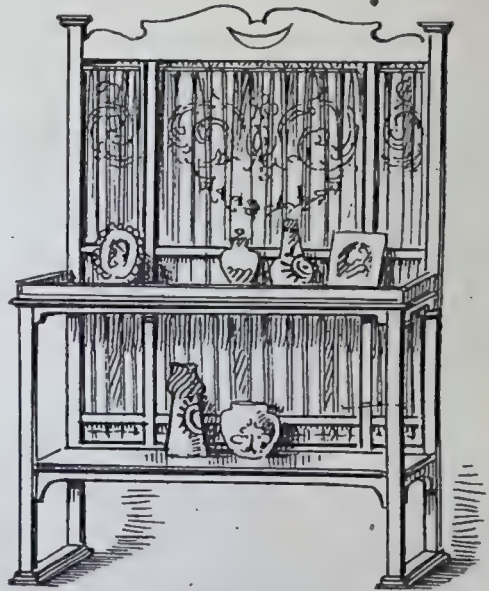
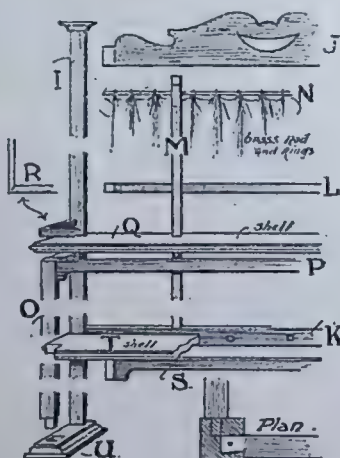

FIG. 2.—ALTERNATIVE DESIGN.
FIG. 4.—DETAIL OF FIG. 2.
Fig. 2 is intended for a somewhat larger screen about 3 feet 6 inches high by 2 feet 3 inches wide, and should come out successfully in white enamel. Two uprights (I, Fig. 4) may be got out from pieces 3 feet 6 inches long to finish $1\frac{1}{2}$ inch wide, or 1 inch by 1 inch or $\frac{3}{4}$ inch net. They should be tenoned top and bottom for entry into moulded caps and toes, the tenon being longer in the latter case so that it enters right through to be wedged. The uprights are also to be mortised for the four rails of frame and the supporting rails of shelves, and will also be notched for the upper shelf to fit in, as a back rail is dispensed
The curtain is indicated as fitted with brass curtain rings or silk loops. As shown in Fig. 4 the uprights (O) supporting the shelves are drawn straight, as being simpler to get out. If so fitted they can be $\frac{3}{4}$ inch by $\frac{3}{4}$ inch by 1 foot 10 inches long, but the parts are such as will be greatly improved by being turned columns, in which case they can be got out 1 inch square. The upper ends can be mortised, or holed for tenons or dowels or rails, or they may be slotted for the rail (P) to be dovetailed in as indicated in plan (Fig. 4), the end rails connecting the columns with the frame being dowelled in. The rail (P) is shaped from a piece 2 feet 3 inches by $1\frac{1}{2}$ inch by $\frac{3}{4}$ inch thick net and can be screwed through up from the underside into shelf (Q). This shelf can project 5 inches, but must be got out 6 inches wide, so that the screen framing can be notched into it
To prevent things slipping off a shelf edging or lipping can be fitted. That shown at R, Fig. 4, may be $\frac{3}{4}$ inch wide by $\frac{1}{4}$ inch or $\frac{1}{2}$ inch thick, to be mitred at corners and glued or pinned into position. A length of 3 feet 6 inches will allow for cutting and fitting. The rail (S) may be shaped to match the upper back rail (J) if preferred, and being only $\frac{3}{4}$ inch thick can be entered into uprights (O) to its full thickness. The shelf (T) will finish 5 inches wide, to be notched at corners to fit round uprights or columns, and glued and screwed carefully through back edge at K, and up through rail (S). The end rails will not then be necessary, but may be fitted if desired.